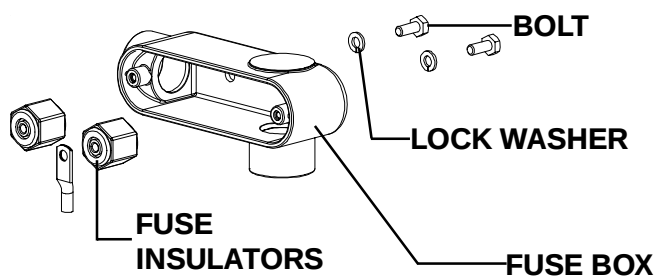

Figure 1-7
Step 14. Install the fuse box and the two fuse insulators with the hardware provided. (**Refer to Figure 1-7**)